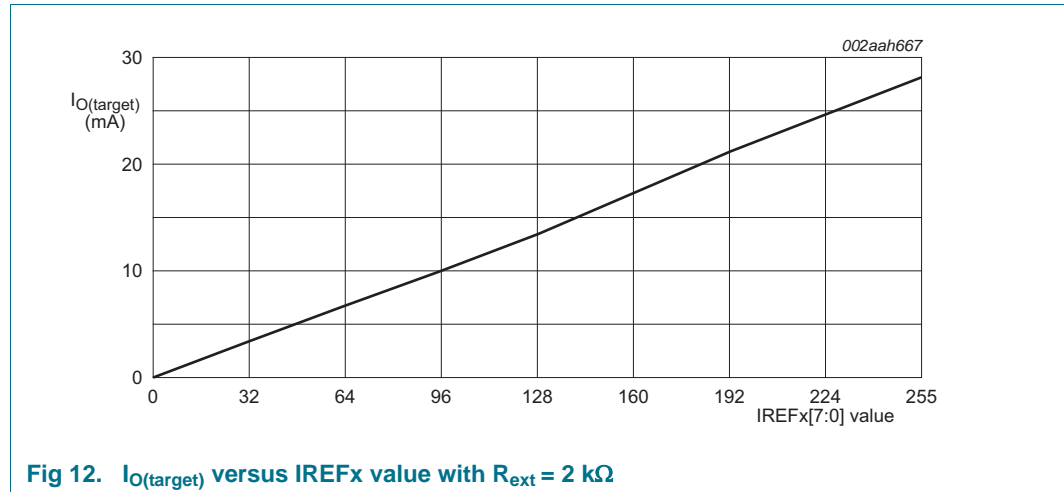

Fig 12. IO(target) versus IREFx value with Rext = 2 kΩ
**Example 2:** If  $R_{ext} = 2\text{ k}\Omega$ ,  $I_{O\_LED\_MIN} = 112.5\ \mu\text{A}$ ,  $I_{O\_LED\_MAX} = 28.687\text{ mA}$  (as shown in Figure 12).